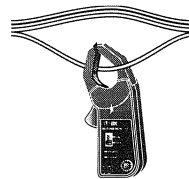

Fig. 2. Illustration of single wire clamped for current measurement.
- The clamp must be positioned around only "one" conductor of a circuit as shown in Fig. 2. If it is placed around two or more current-carrying conductors the reading will be false. A good example of a false reading would be an attempt to measure ac current by clamping around the line cord of an appliance. Currents flowing in both directions tend to cancel the measurement, giving a false reading.